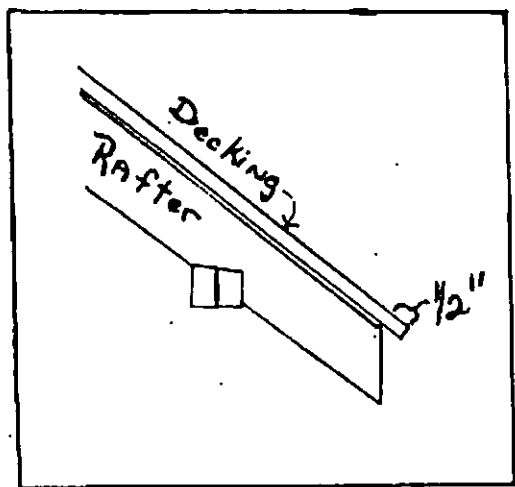

FIGURE 53
--The decking should overhang 6"-10" beyond the sides of the rafters unless you have constructed rafters to overhang the walls. (In this case, 1".) Decking should overhang 1" beyond the end of the rafters. (See Fig.53)